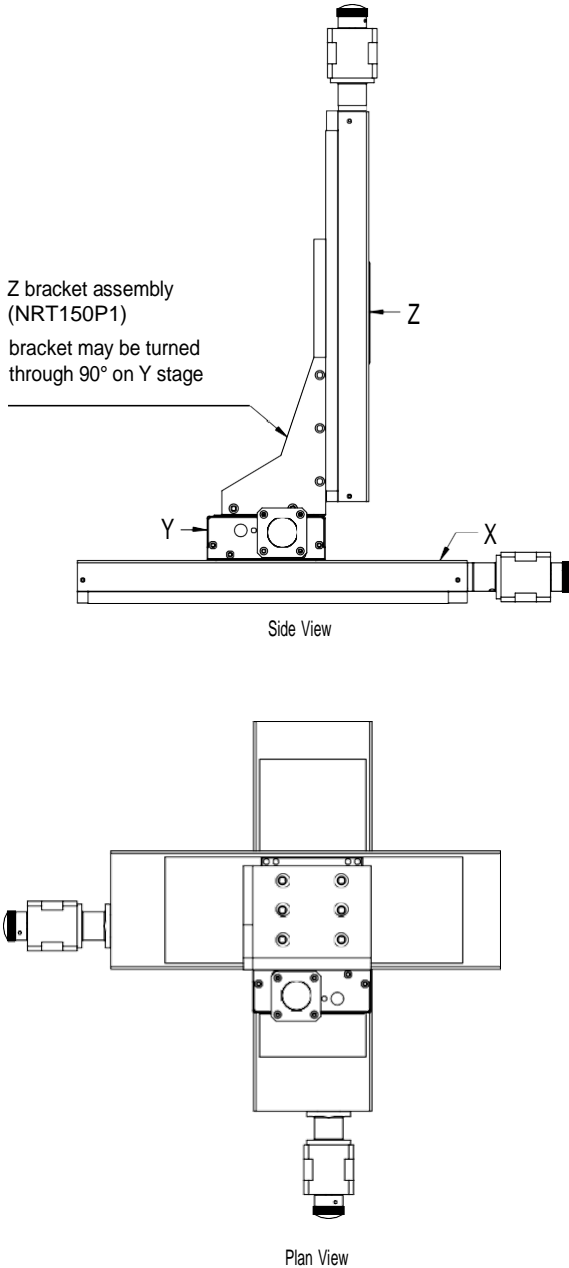

Fig. 3.3 X-Y-Z configuration
- 3) Fit the Z-bracket assembly (NRT150P1) to the Y axis stage and attach the Z axis stage as shown in Fig. 3.3.